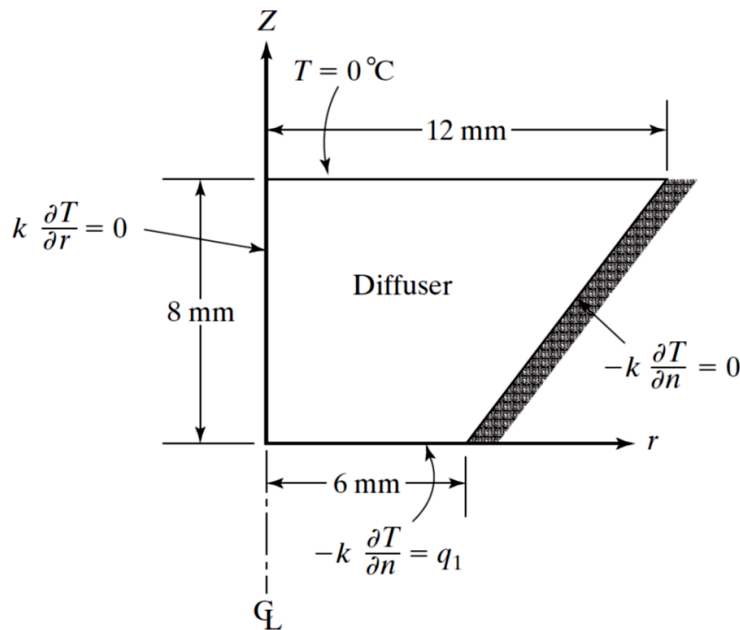

FIGURE P10.16
- 10.16.** A thermal diffuser of axisymmetric shape is shown in Fig. P10.16. The thermal diffuser receives a constant thermal flux of magnitude $q_1 = 400,000 \text{ W}/\text{m}^2 \cdot ^\circ\text{C}$ from a solid-state device on which the diffuser is mounted. At the opposite end, the diffuser is kept at a uniform value of $T = 0^\circ\text{C}$ by isothermalizing heat pipes. The lateral surface of the diffuser is insulated, and thermal conductivity $k = 200 \text{ W}/\text{m} \cdot ^\circ\text{C}$. The differential equation is